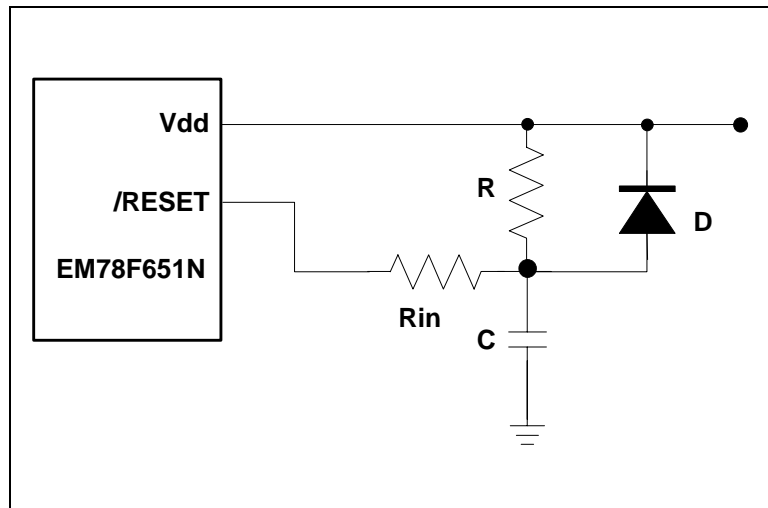

Fig. 6-15 External Power-Up Reset Circuit
The circuit shown in Fig 6-15 implements an external RC to produce a reset pulse. The pulse width (time constant) should be kept long enough for Vdd to reached minimum operation voltage. This circuit is used when the power supply has slow rise time. Because the current leakage from the /RESET pin is  $\pm 5\mu\text{A}$ , it is recommended that R should not be greater than 40 K. In this way, the /RESET pin voltage is held below 0.2V. The diode (D) acts as a short circuit at the moment of power down.